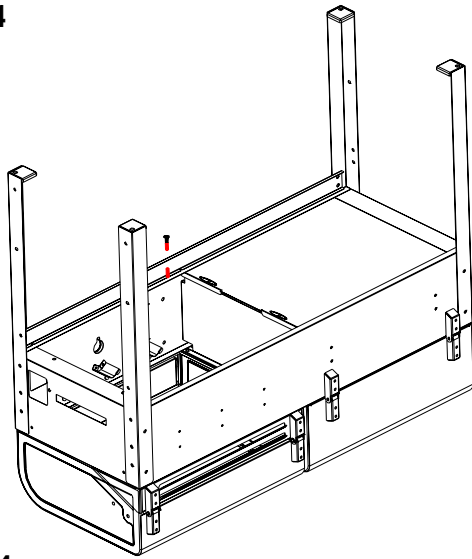

Fig. 4
*Locate:* (1) ST4.0x10 screw
Refer to Fig. 4 and fix the Front Frame to the MIDDLE of Gas and Charcoal Cabinet with Lids using (1) ST4.0x10 screw.